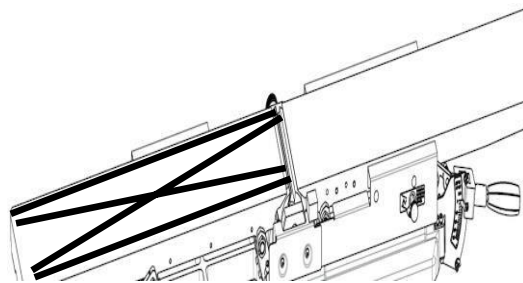

Figure 39:
**STEP 4:** Place straight edge to all the positions shown in **FIG. 39** and cap screws and loosen set screw(s) adjust the eccentric bushings, as in **FIG. 38**, until straight edge slightly touches the cutterhead insert knife (at top-dead-center) at each position.